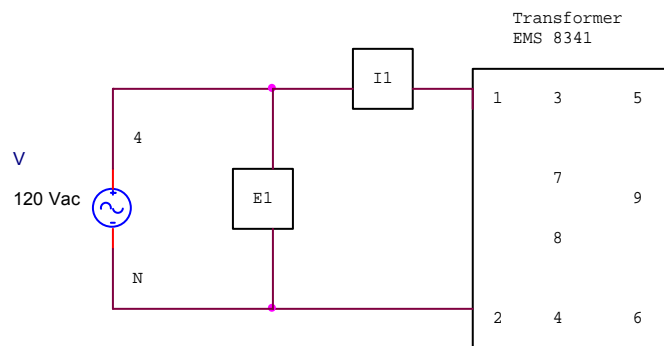

Figure 3 Single Phase Transformer Circuit for part two (open circuit test).
12. Construct the circuit of Figure 3. Apply rated voltage (120V) to the primary windings. Record the values of primary voltage, primary current, input power P_1 . Turn the voltage control knob CCW, and turn off the main power supply.